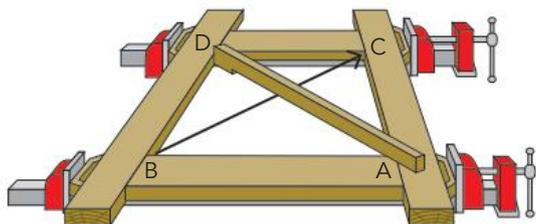
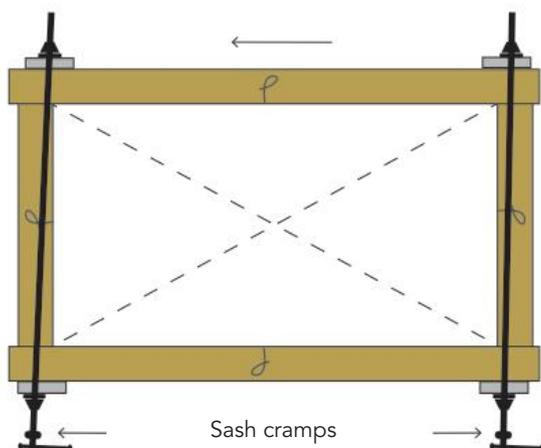

Figure 7.44 Diagonal stick compares distances AD and BC; to square frame, cramps are adjusted until diagonals are equal
Figure 7.45 Cramps adjusted to pull frame square
- Sash cramps are used to bring shoulders of joints tightly together. Cramps should be parallel and square. Test the frame for squareness by measuring the internal diagonals with a thin rod (Figure 7.44). If out of square, a sharp tap on the end of the stile at the long diagonal corner or moving the end of one or both cramps towards that corner should correct the situation (Figure 7.45).